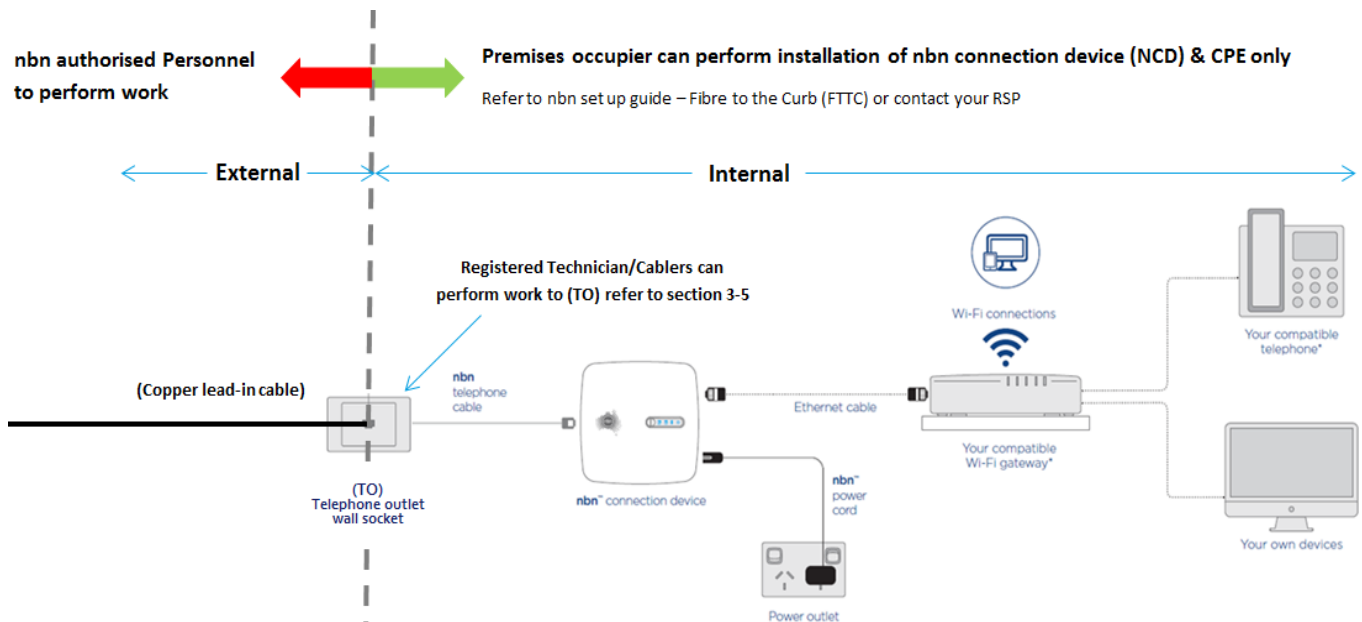

Figure 19. FTTC Network
- Replace, relocate or otherwise alter within a premise for renovation, demolition or relocation of the building/premises subject to the boundaries identified in Figure 19 below, and with reference to Section 3 for details on the Network Boundary Point (NBP)